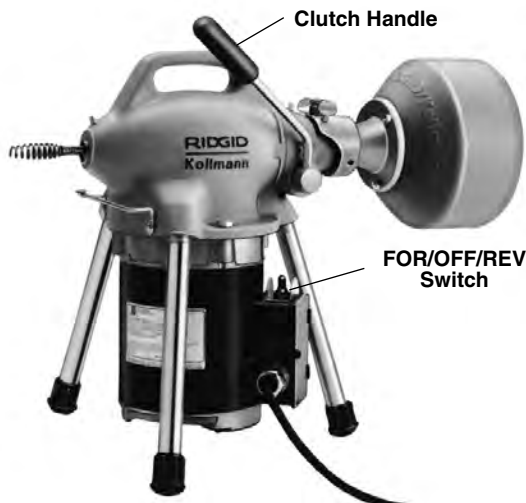

Figure 1 – K-50 Drain Cleaner
1. Make sure the Drain Cleaning Machine is unplugged and the directional switch is set to the **OFF** position.(Figure 1).